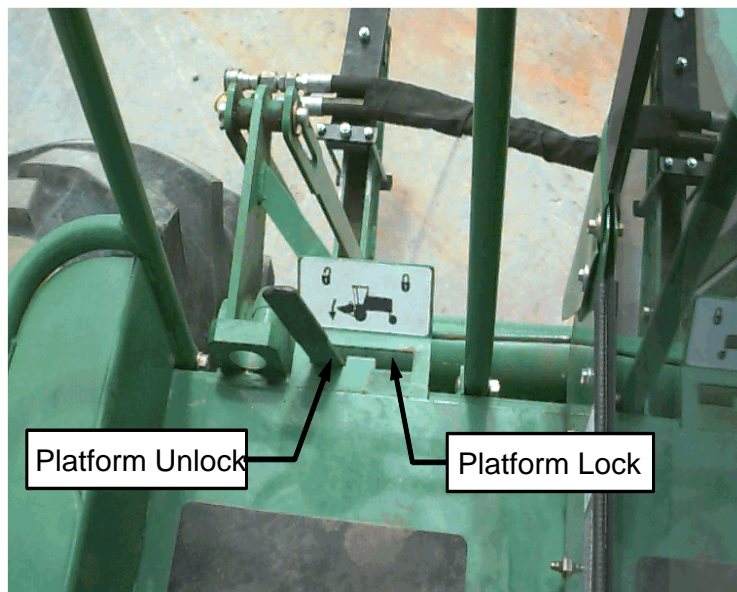

Figure 30.8
8. Lay two (2) blocks (recommend 4"x 4" x 16") directly under the cutter bar, aligned with the two table struts located closest to the end of the swather. See Figures 30.8 & 30.9